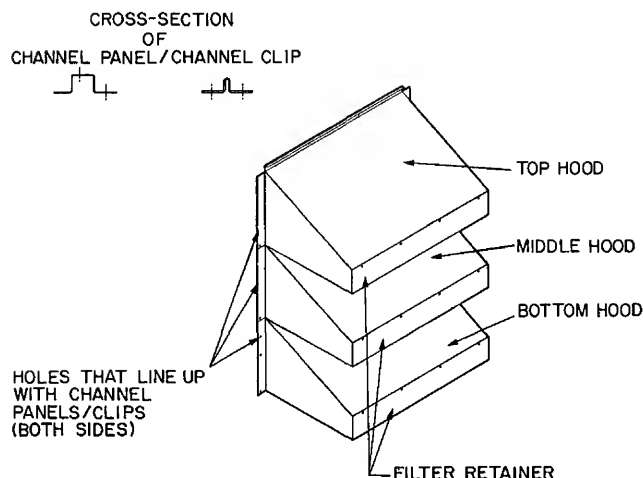

Fig. 10 — Economizer Hood Assembly Holes
- 2 channel panels } See Fig. 10 for cross-section
7. See Fig. 10 and insert the capscrew bolts through the flange holes as shown, from the back side, threads facing outward. Note that though there are 12 holes (4 per hood) per side, only the 3 shown per side are to be used.